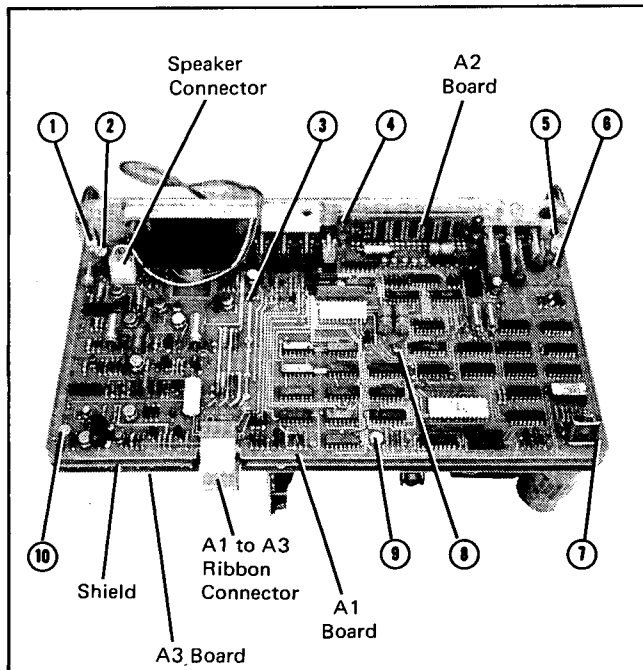

Figure 5-15. A1 and A2 Board Assembly Removal.
- a. To remove the A1 and A2 boards, unplug the A1 to A3 ribbon connector and A1 speaker connection. Remove the ten phillips head screws as shown in Figure 5-15. Then remove the board assembly so as not to damage the Power and Display & Monitor switches.